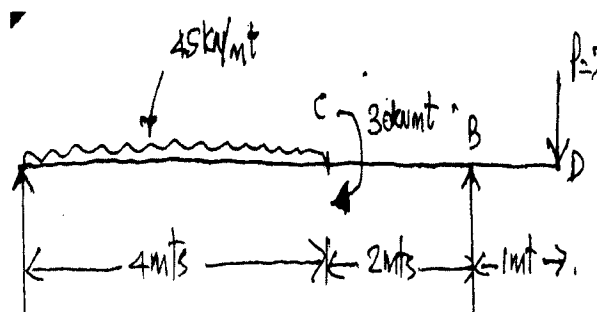

Fig. Q6(b)
b. For a beam subjected to forces shown in Fig. Q6(b) determine the magnitude of 'P' such that reactions are equal at the supports. Draw the shearing force diagram and bending moment diagram for the same, mark all the salient points. (14 Marks)